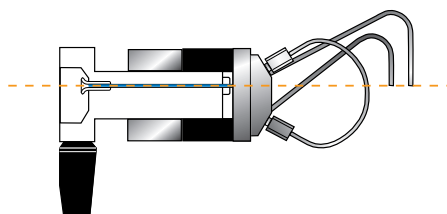

Fig. 2. Correct position of vent lines.
- Connect the two vent tubes (supplied) to Ports 5 and 6. Place the outlet ends of both at the same horizontal level as that of the needle port to avoid siphoning. See Figure 2.